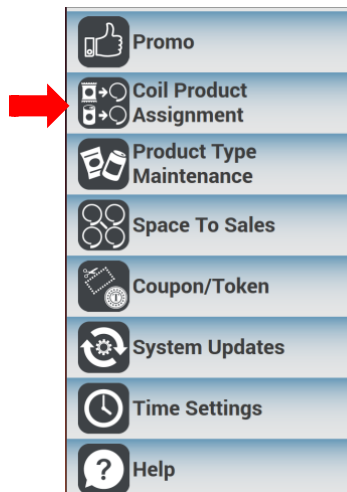

Figure 63
- From the service menu scroll down to Coil Product Assignment. (See Figure 63.)